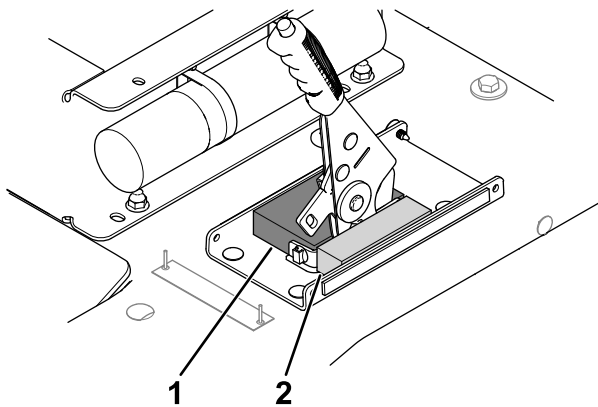

Figure 14
4. Remove the backing film and install the brake plugs (Figure 14).